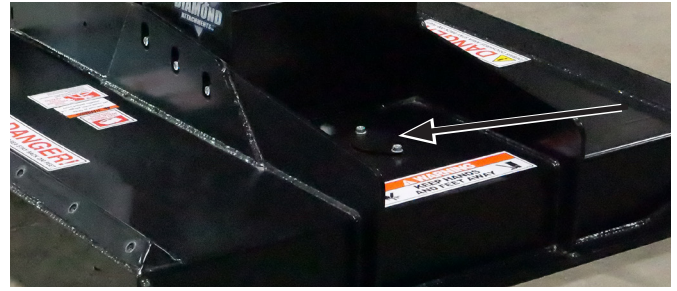

Figure 6
2. Slowly rotate the blade carrier by hand until the blade nut is centered in the access hole as shown above in Figure 6.